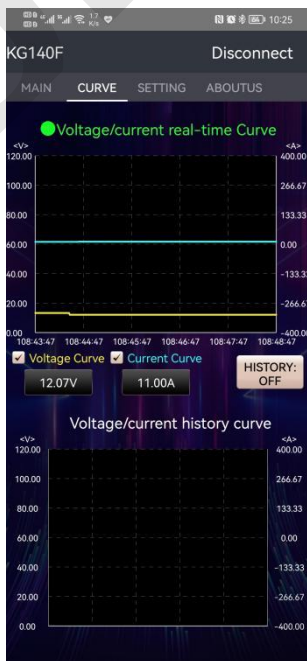

Figure 3-5-23
Voltage and current real-time curve: When the green circle icon appears before the text of the voltage and current real-time curve, and the text turns green, it means that the voltage and current real-time curve is selected, click the value displayed by the voltage and current, and the voltage or current real-time curve can be displayed separately. And the opening and closing of the voltage and current real-time curve is associated with the output state and the data recording switch of the main interface. Only when the output state and the data recording switch are turned on (ON), the voltage and current real-time curve recording will be turned on. The real-time curve of voltage and current is shown in Figure 3-5-23 below.